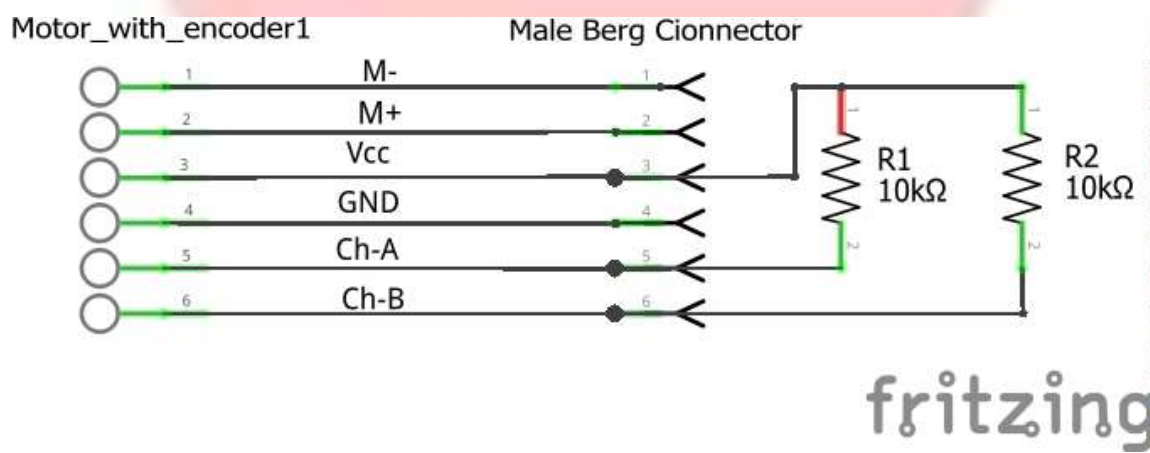

Figure 1: Circuit diagram for board
4. Now solder the 6 solder cables to perf board and connect pins according to Figure 1.
5. First study the circuit diagram as shown in Figure 1.
8. Now solder the 6 solder cables to perf board and connect pins according to Figure 1.